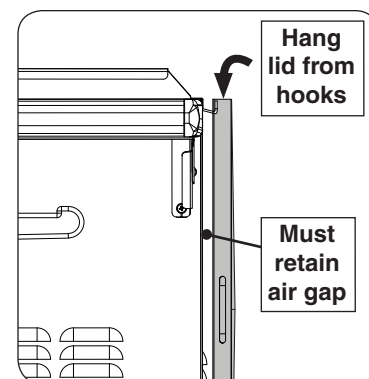

Fig. 20-1 Hang lid
1. Remove the griddle lid. The back of enclosure has hooks to hang the lid. When using the hooks, the lid must hang from the far end of the hooks to maintain proper ventilation when cooking. See Fig. 20-1.